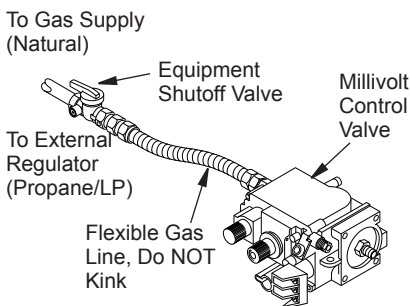

Figure 2 - Connecting/Disconnecting Gas Line to Millivolt Valve
1. Using a 5/16" hex socket wrench or nut-driver, connect or disconnect flexible gas line and control valve (see Figure 2).